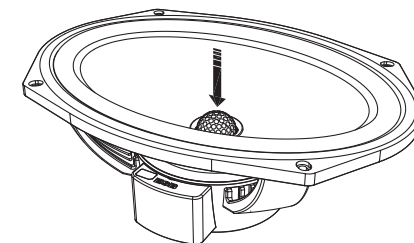

Fig. 5
- 5- Now instead of the tweeter holder insert the ABS plug (Fig. 5).